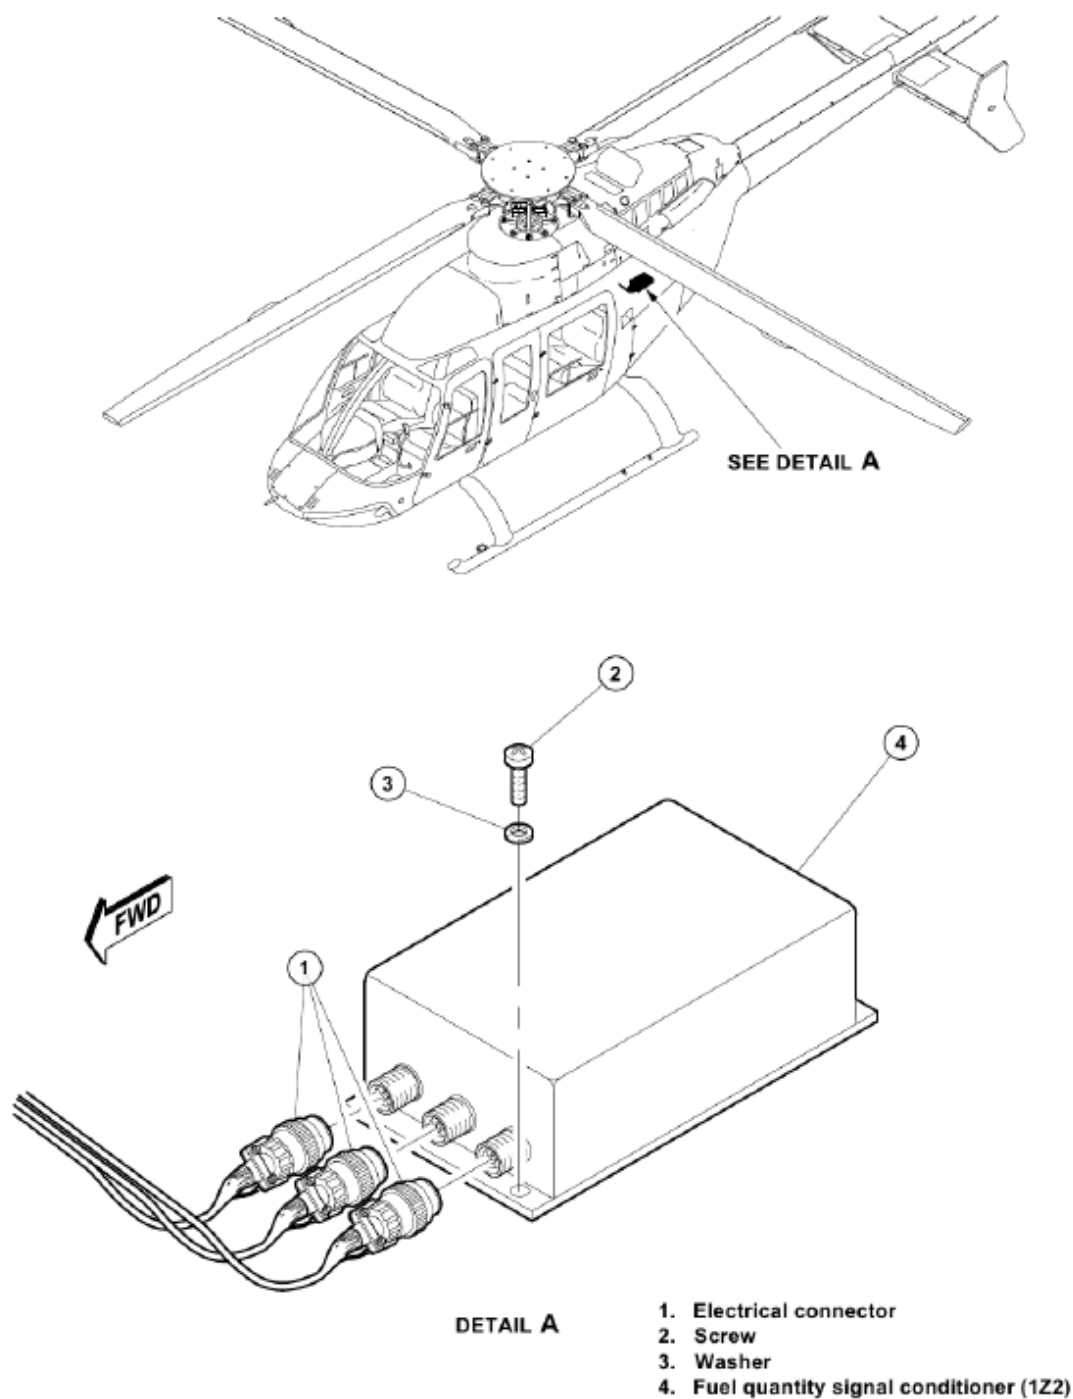

Figure 95-37: Fuel Signal Conditioner - Removal and Installation
3. Disconnect the electrical connectors (1Z2P1, 1Z2P2, 1Z2P3) (1, Figure 95-37) from the fuel quantity signal conditioner (1Z2) (4).
4. Remove the screws (2) and the washers (3).
5. Remove the fuel quantity signal conditioner (1Z2) (4).
6. Install caps and/or plugs (C-156) on the electrical connectors (1Z2P1, 1Z2P2, 1Z2P3) (1) and on the fuel quantity signal conditioner (1Z2) (4).
3. Install the fuel quantity signal conditioner (1Z2) (4, Figure 95-37). Make sure that the electrical receptacles point forward of the helicopter.
4. Install the screws (2) and the washers (3).